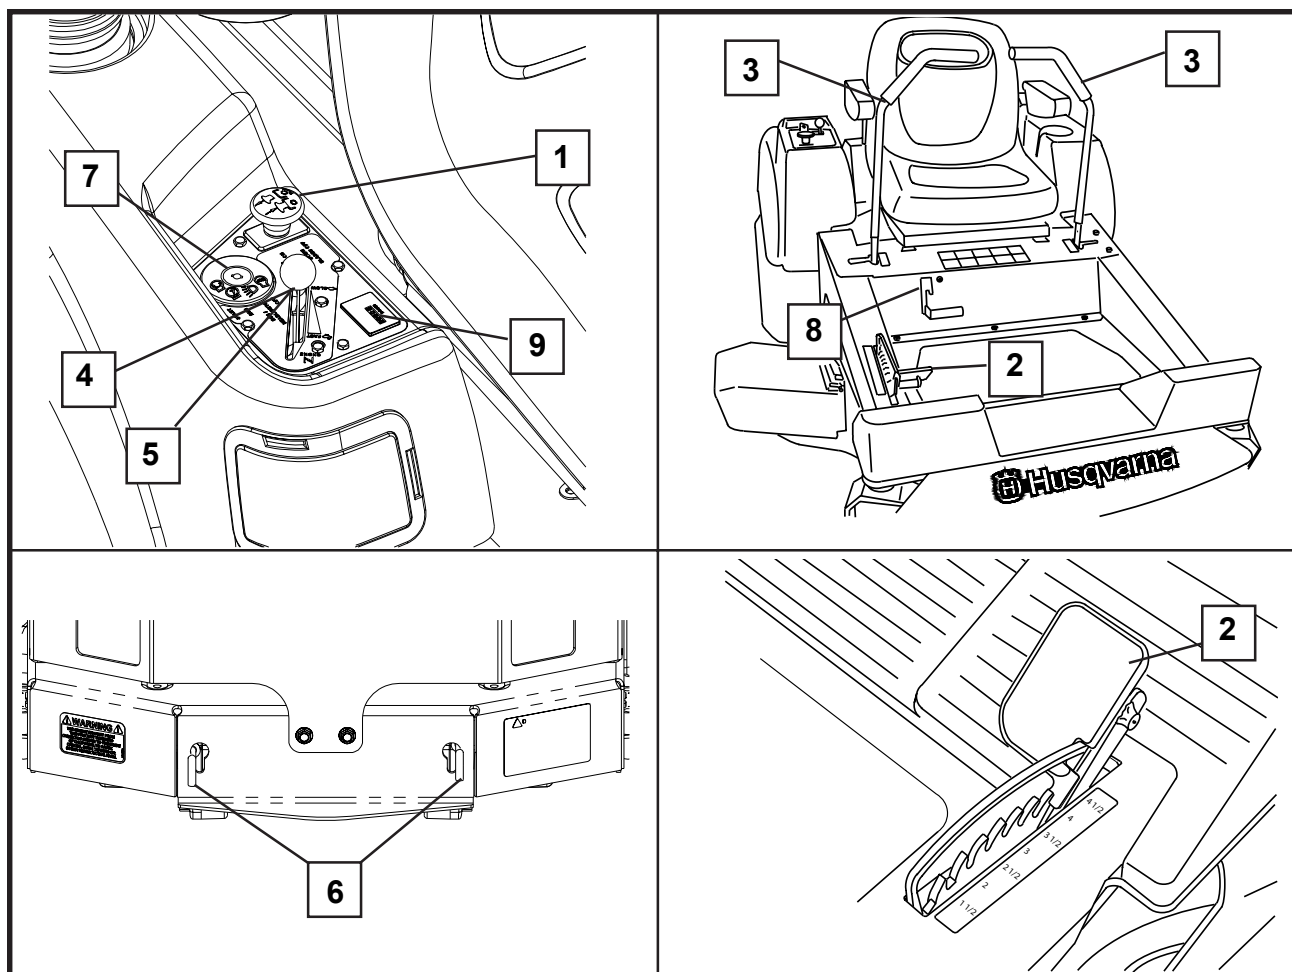

FIGURE 3
Check to make sure bypass rods are in the drive position (see TO TRANSPORT) (see FIGURE 3, ITEM 6).
Control levers **MUST** be placed in the neutral position (outward (see FIGURE 3, ITEM 3).
Place parking brake in the engaged (brake on) position by pulling upwards on brake handle, then slide to the left (see FIGURE 3, ITEM 8).
Make sure blades are disengaged by pushing down on the PTO switch (see FIGURE 3, ITEM 1).
TO USE THROTTLE CONTROL (See Fig. 3, Item 4)
TO USE CHOKE CONTROL (See Fig. 3, Item 5)
TO START ENGINE (See Fig. 3)
- Sit on the seat in the operators position, make sure park brake lever is engaged (brake on) position (see FIGURE 3, ITEM 8).
- Check to be sure the PTO switch is disengaged or in the down position (see FIGURE 3, ITEM 1).
- Move the throttle control to the choke position, if required (see FIGURE 3, ITEM 5).
- Allow engine to run at full throttle for approximately one minute, before attempting to engage the blade PTO switch (blades on) by pulling up (see FIGURE 3, ITEM 1).